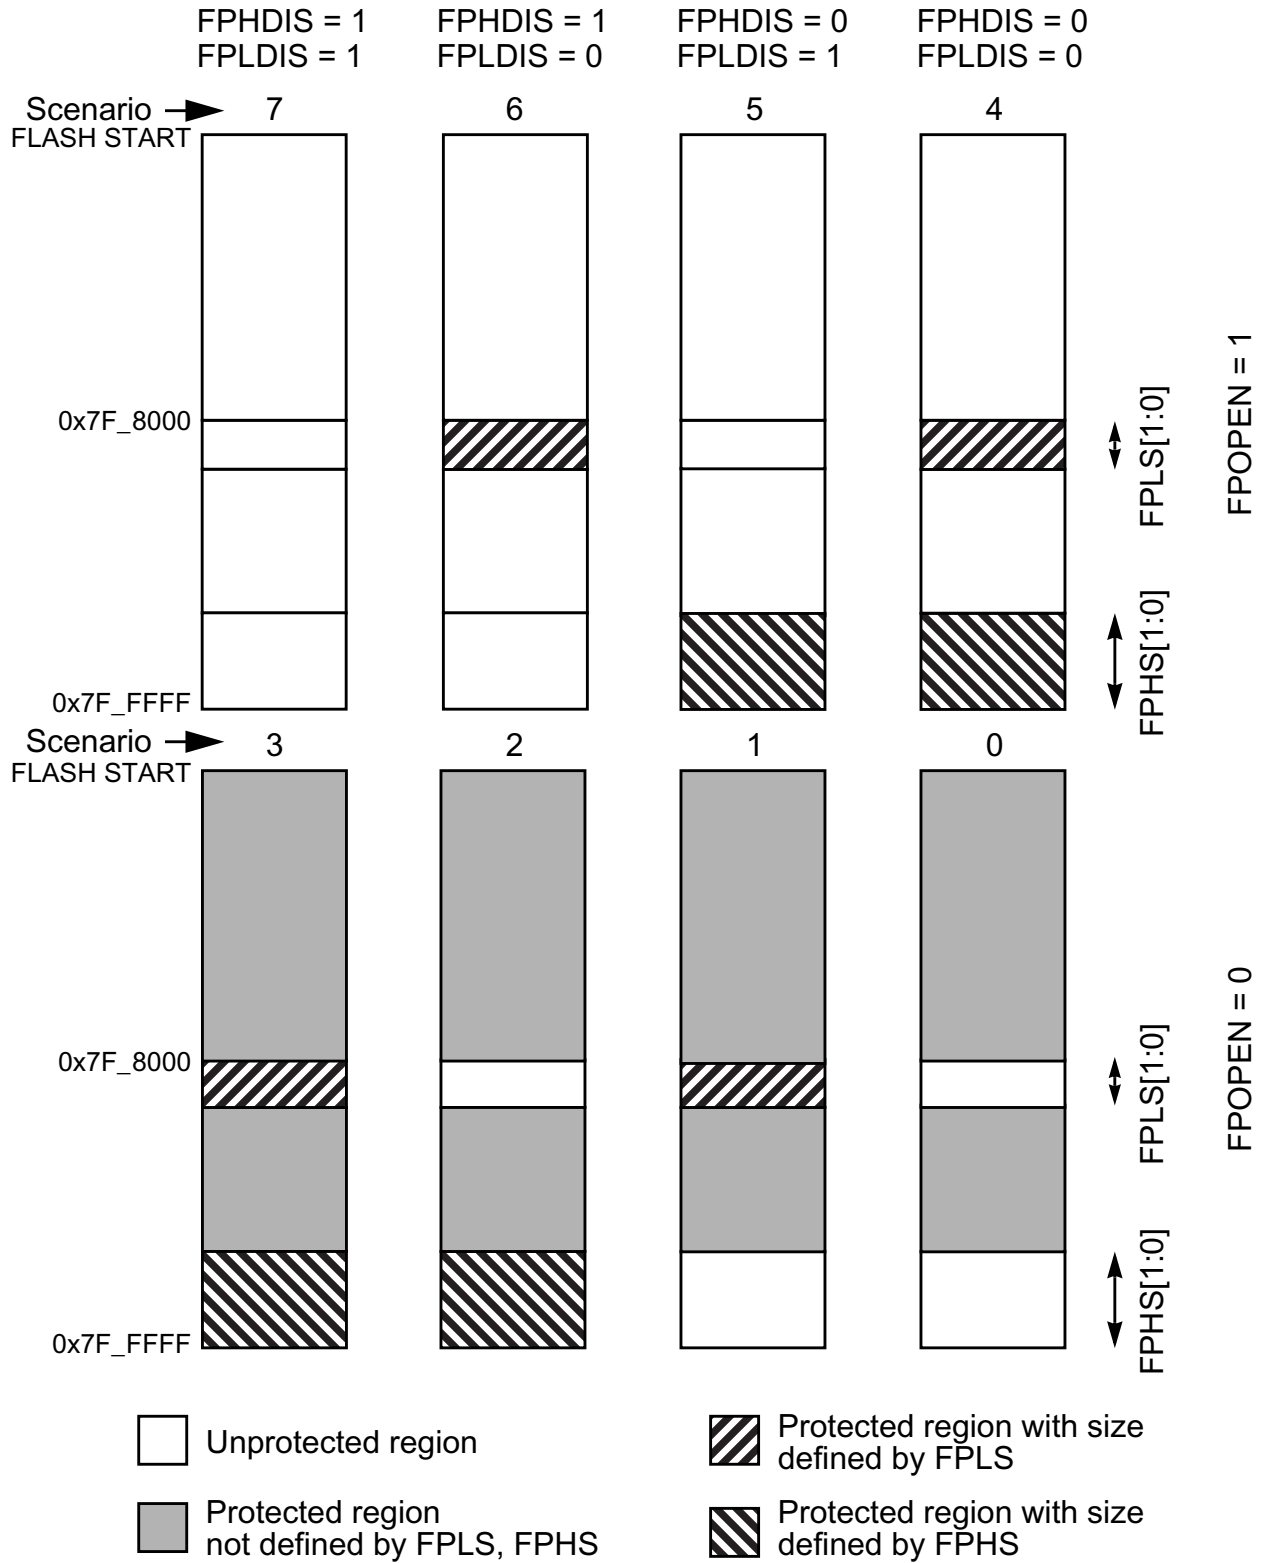

Figure 24-14. P-Flash Protection Scenarios
All possible P-Flash protection scenarios are shown in Figure 24-14. Although the protection scheme is loaded from the Flash memory at global address 0x7F_FF0C during the reset sequence, it can be changed by the user. The P-Flash protection scheme can be used by applications requiring reprogramming in single chip mode while providing as much protection as possible if reprogramming is not required.
1. Allowed transitions marked with X, see Figure 24-14 for a definition of the scenarios.